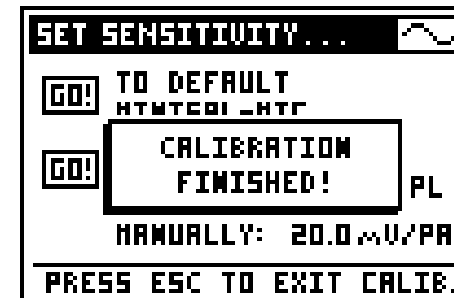

Fig 15 Calibration Finished
- The frame WORKING ... followed by the frame CALIBRATION FINISHED! is shown centered on the calibration screen if all has been found in good order (see Fig 15). Otherwise various error indications may be displayed to inform the user about the